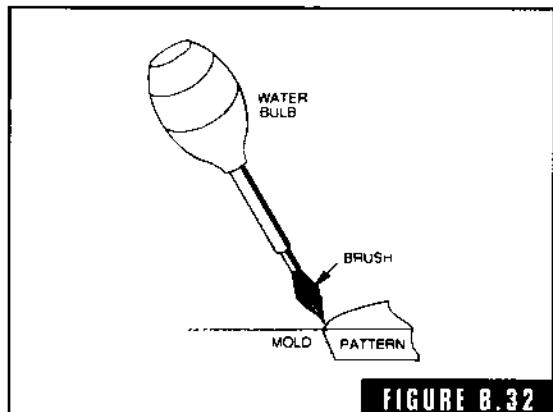

FIGURE B.32
**bulb sponge** The bulb sponge consists of a rubber bulb with a hollow brass stem terminating in a soft brush (Fig. B-32). The stem is pulled out and the bulb filled about three-fourths full of water. The stem is then replaced. The bulb sponge is used to swab around the pattern prior to drawing it, in the way the flax swab is used for floor molding. The bulb is gently squeezed to keep the brush wet while swabbing.